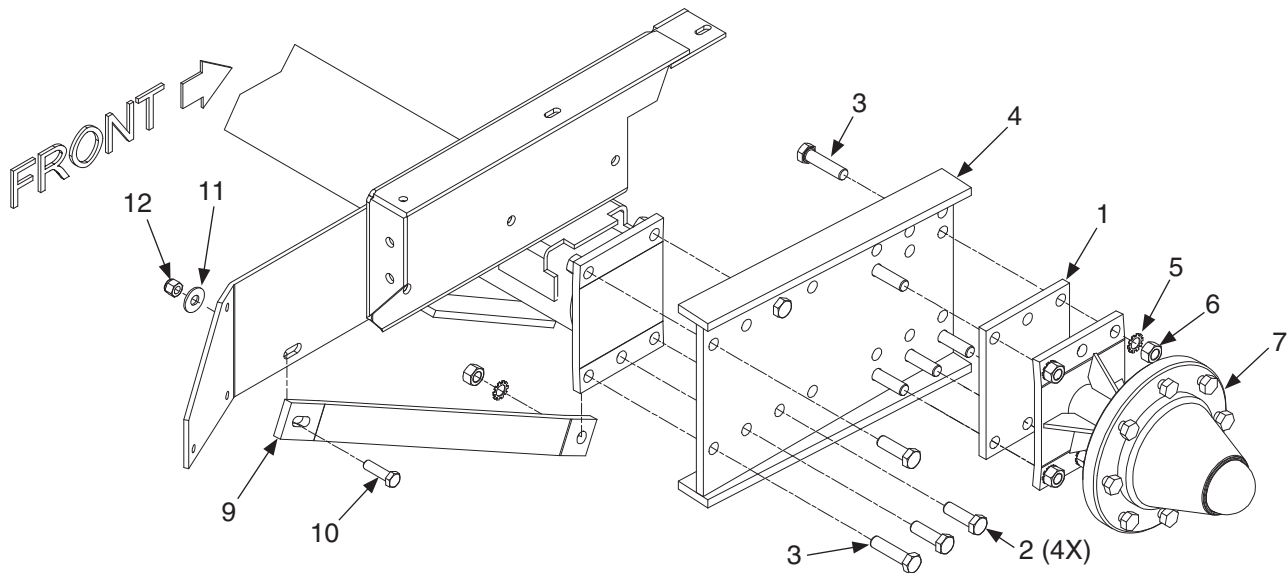

Figure 2-3-1 - Mounting Plate, Brace, Spacer's & Hub
A. (See Figure 2-3-1) Place (5) Item 3 Bolts through (1) Item 4 Extension Plate. Place (1) Item 1 Spacer Plate and (1) Item 7 Hub and Spindle on the Extension Plate. Secure the hub and spacer plates to the Extension Plate with 5/8" star washers and nuts. Torque all nuts and bolts as per torque chart on page 2-3-1.
B. (See Figure 2-3-1) Place the Extension Plate on the axle using (4) Item 2 Bolts and (1) Item 3 bolt. Place Item 9 RH Brace as shown, using (1) Item 10 Bolt. Secure the Extension Plate to the axle with 5/8" star washers and nuts. Torque all nuts and bolts as per torque chart on page 2-3-1.